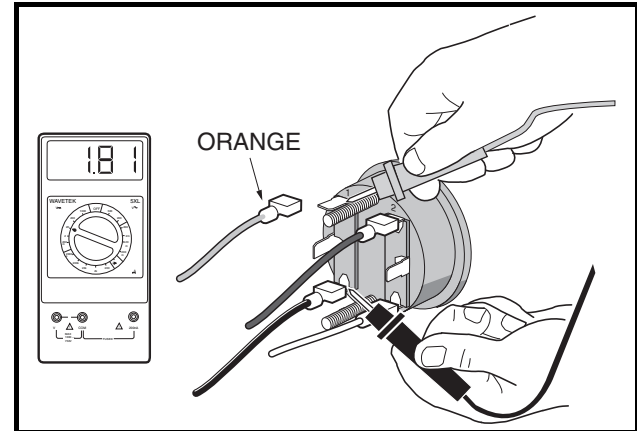

Figure 11-40 Test Fuel Gauge Voltage
9. The orange wire should remain disconnected for this step. With the black probe still on the (3) terminal of the fuel gauge/hour meter, place the red (+) probe of the multimeter on the (1) terminal of the fuel gauge/hour meter (**Figure 11-40, Page 11-36**). The voltage reading should be approximately 1.81 volts. If the reading is incorrect, replace fuel gauge/hour meter.